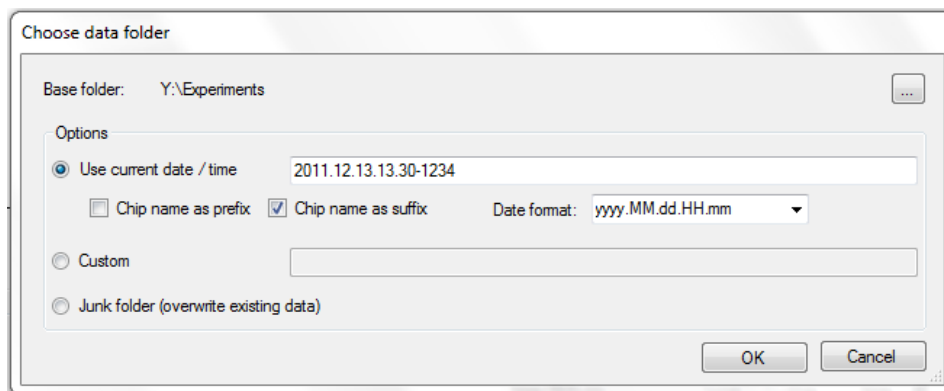

Figure 11. *Choose data folder* window.
- In the *Choose data folder* dialog box (Figure 11) that appears, select a destination folder and file name options for your run data and click [OK].